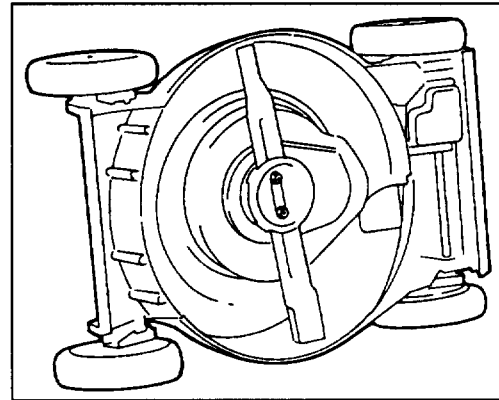

Figure 22
2. Tip mower on its right side (Fig. 22). Avoid rotating blade because starting problems may result.